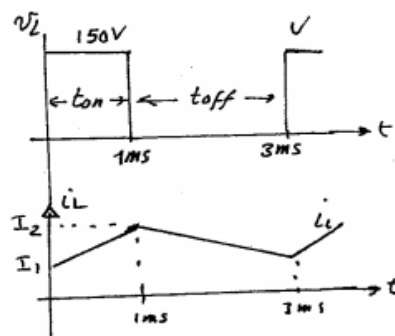

Fig. Q2.
- (a) Waveforms of Voltage v_L and current i_L are shown in Fig. Q2.